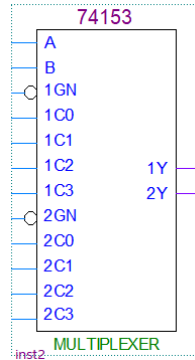

Figure 5: 74'153 in Quartus.
- When you use Quartus to design with a 74'153 MUX (search for 74153, see Figure 5), you will find that the select lines are labeled A and B. Which select inputs correspond to A and B for this MUX? Verify the functioning of a 74'153 MUX (and if $A B = S1 S0$ or $A B = S0 S1$) by creating a new Quartus circuit (in a new project and file, lab2_MUX_TEST) using only this chip, inputs, and outputs. Simulate this design using enough different input combinations to prove that the 74'153 works as you suspect it should. For every "new" part you use (like the 74'153), if you are not sure of a pins function, you should verify its